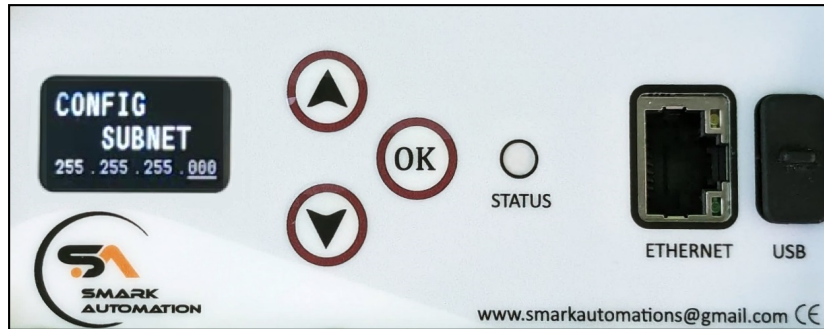

Figure 25: Configuring Subnet
2. **Enter Subnet:** Once the IP address is set, user will be prompted to enter the Subnet, as shown in Fig 25. Follow the same procedure for Configure the IP address to configure the Subnet.